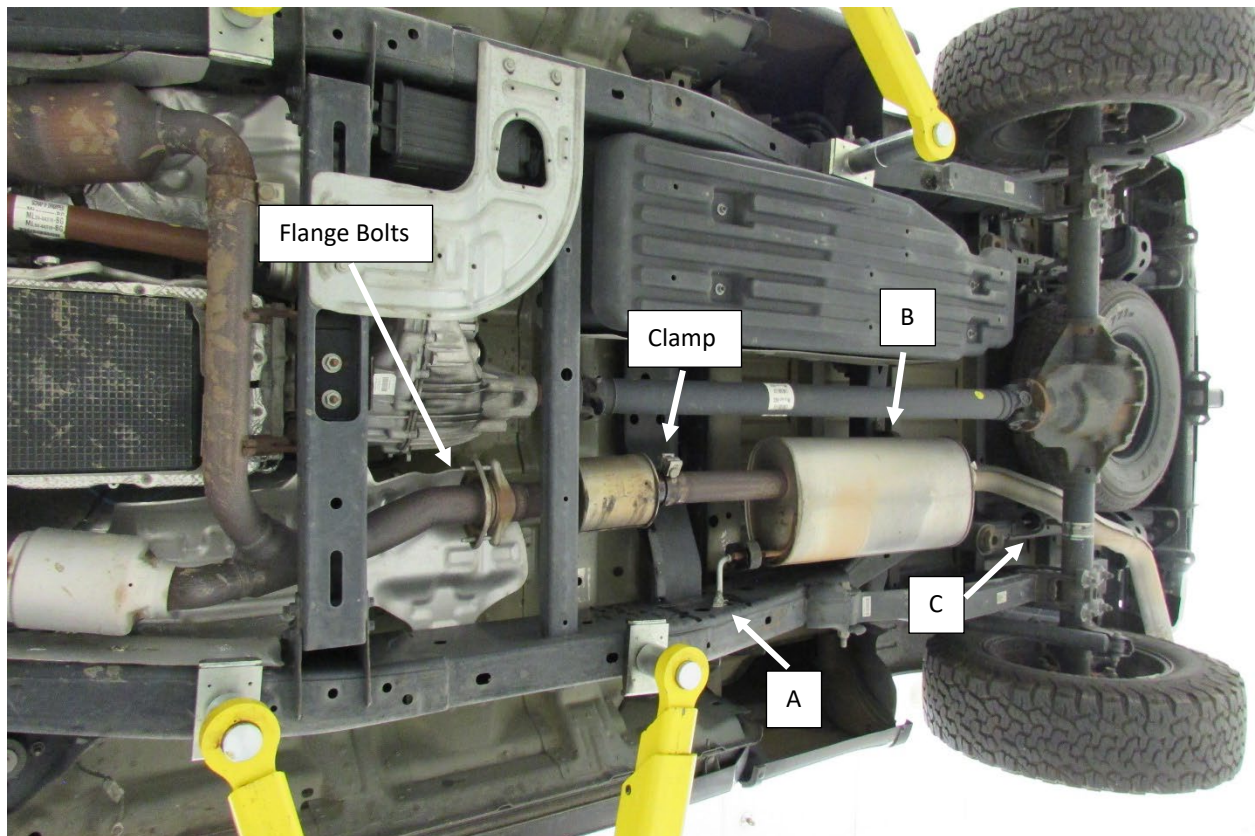

Figure.1
1. Loosen the 15mm nut at the band clamp on the muffler inlet pipe. Spray the connection with penetrating oil. **Fig.1**
3. Remove the bolts from the (X3) exhaust hanger brackets (A), (B), (C). **Fig. 1**